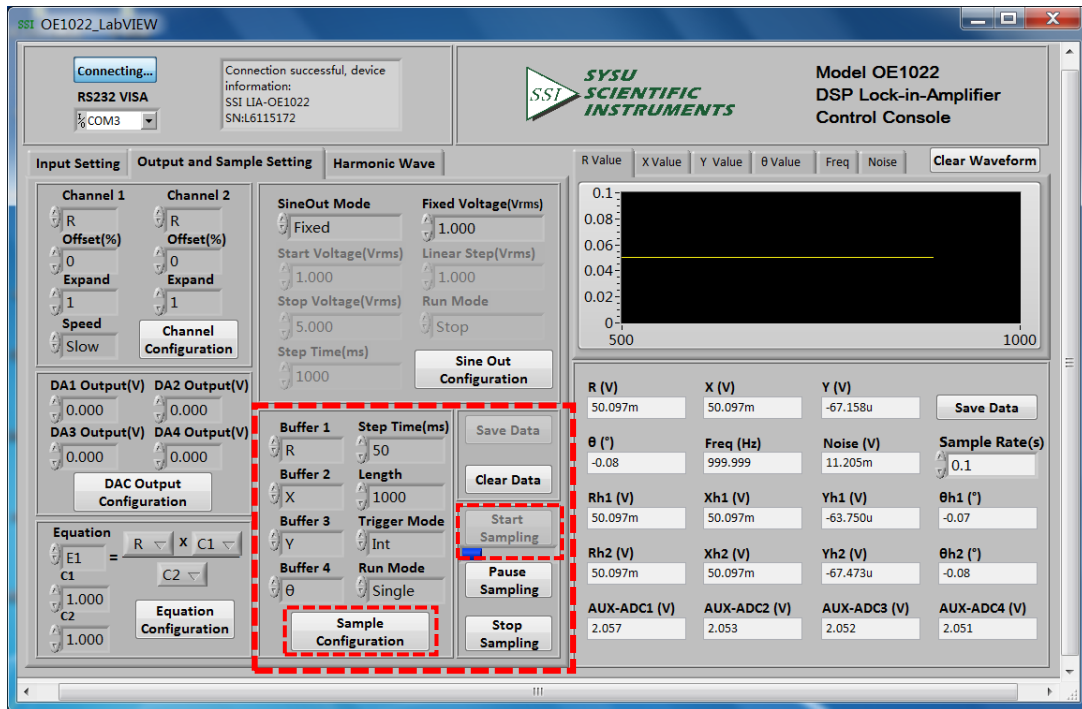

Fig.84 Data Collection
- Choose these options in data buffer configuration area, including data sampling type, sampling step time and sampling length with other options in default. Then click the button **Sample Configuration** and then click the button **Start Sampling**. When there is a progress bar at the bottom of this button, the OE1022 starts to collect data, as is shown in Fig.84.